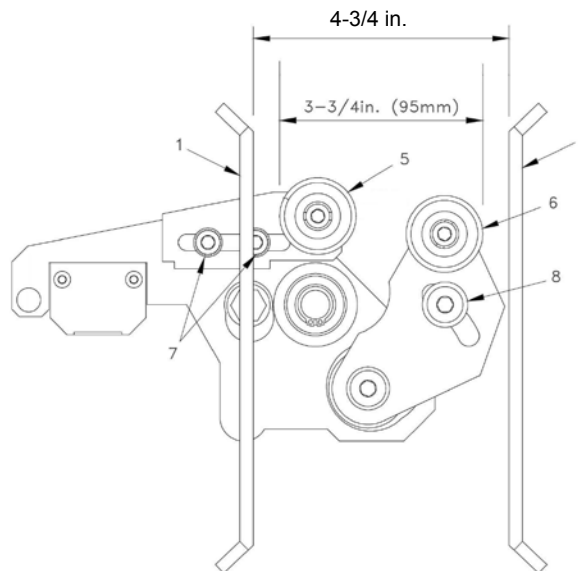

Figure 52 Spacing of Door Drive Rollers
4. See Figure 52. Verify the outside-to-outside dimension of the door drive rollers (5 and 6) is 3-3/4" (95 mm). Verify that the rollers are centered with the clutch.